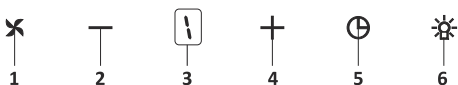

Fig. 16: 5 Spd Dig Button
1. Press this button to turn on the product. Fig. 16
2. Press this button to decrease the motor speed. Fig. 16
3. Dig display You can follow which speed the product is currently working on this display. Fig. 16
4. Press this button to increase the motor speed. Fig. 16
5. When timer button is pressed, a 15-minute timer function will be activated; display will give a signal once the timer starts and the motor will stop automatically after 15 minutes. Fig. 16
6. Press this button to turn on and off the lamp. Fig. 16